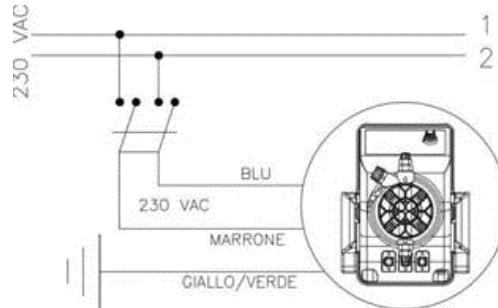

Fig. 4
1. Disconnect the pins from the mains or by means of a two poles switch with 3 mm minimum distance between the contacts. (Fig. 4).
b. - Carefully observe the regulations in force in the various countries as regards electrical installations (Fig. 4).